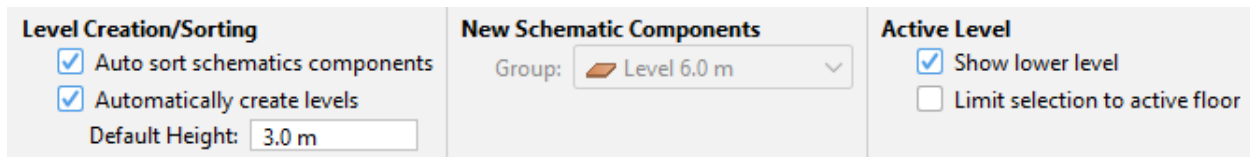

Figure 17. Level Creation Panel
When nothing is selected in the model and no tools are active, the **Level Creation** panel is shown, as in Figure 17. This panel controls the automatic creation of levels and automatic sorting of new objects into levels. It also provides some options for level view and selection.
2. Clear the selection so that the **Level Creation** panel is visible (Figure 17).